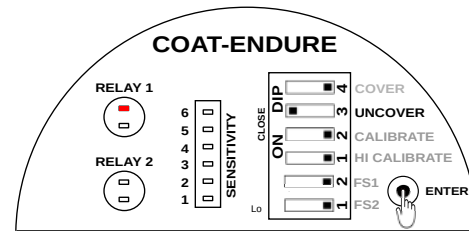

Figure 11: Setting Uncover Delay
- Press ENTER and keep it pressed as shown in Figure 11. The STATUS RED LED of Relay 1 will start blinking. Count the number of blinks. After setting the value release the ENTER key.